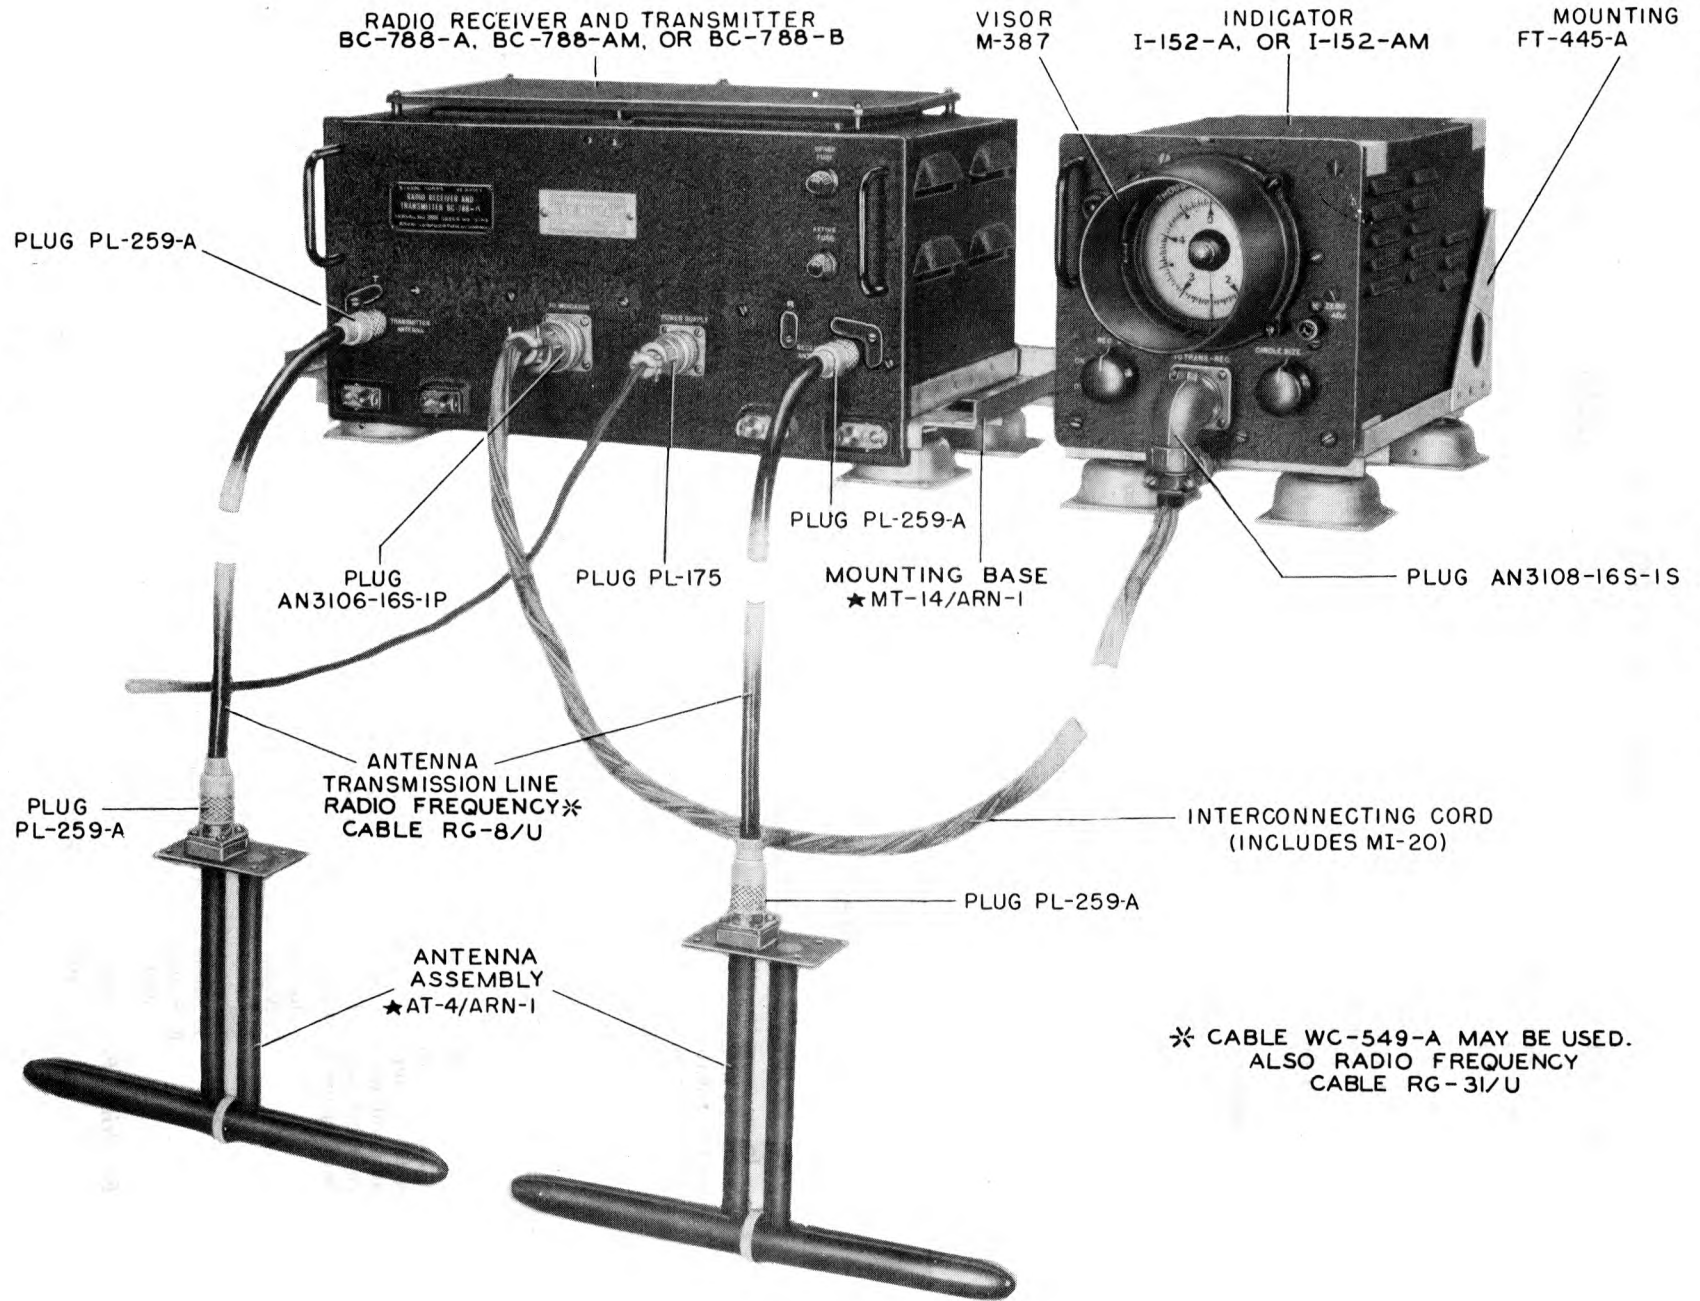

Figure 1-1. Radio Set SCR-718-1—Components
a. Radio Set SCR-718-( )\* (high altitude altimeter), shown in figure 1-1, is a complete equipment for installation in an aircraft for use in determining height above terrain. Nominal range of the equipment is 0 to 40,000 feet. All necessary voltages, other than that of the primary power source, are generated within the radio set. The primary power source should be an aircraft a-c supply of 115 volts  $\pm$  5 percent.† The nominal frequency rating of the supply should be between 400 to 2400 cps, but its actual frequency may vary between 380 and 2600 cps. Power consumption of the radio set is 135 watts.